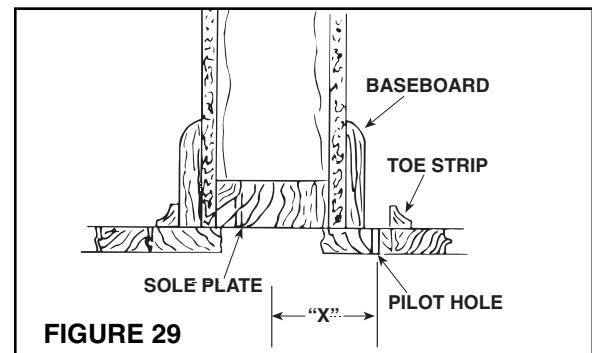

FIGURE 29
1. See Figure 29. A small 'pilot' or 'locating' hole can be drilled behind baseboard toe strip to determine proper location of  $2\frac{1}{2}$ " diameter tubing hole in sole plate.